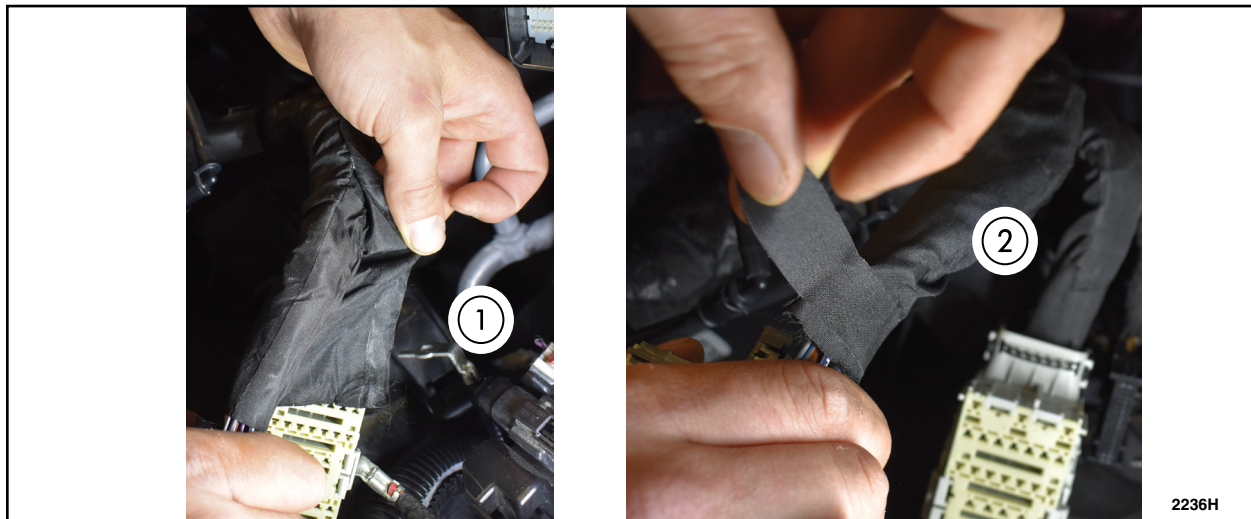

FIGURE 22
25. Put wire covering back into place and secure with new Coroplast tape. See Figure 22.